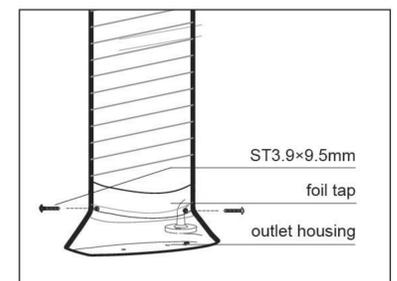

fig14
7. Connect the exhaust duct: cut off the redundant exhaust duct or connect the smoke tube according to the actual distance, put the smoke tube into the outlet housing connecting rings, then pre-fix the exhaust dust with two screws (ST3.9 $\times$ 9.5), and finally wrap it with foil tape for fixation and sealing; (fig14)